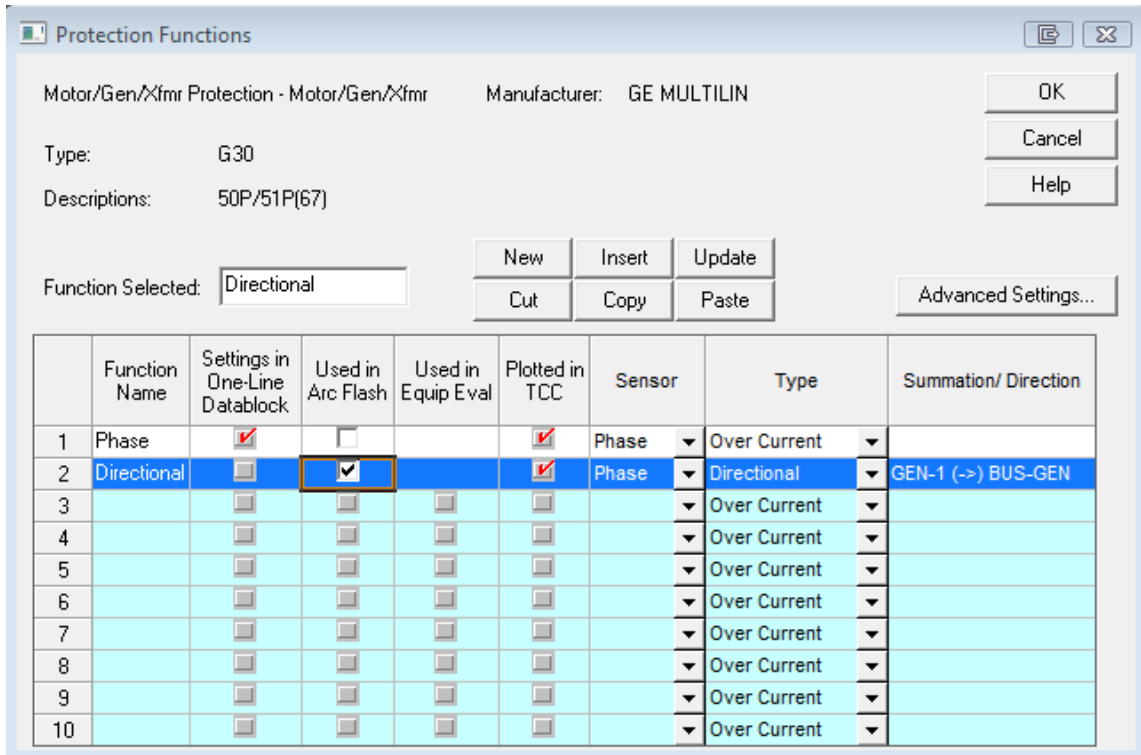

Figure 10
- Click the Function button again to confirm that the “Used in Arc Flash” is now available for directional function as well. Check this box to use the directional function in Arc Flash. Note that the box in front of Phase is automatically unchecked (Figure 10). Now click OK.